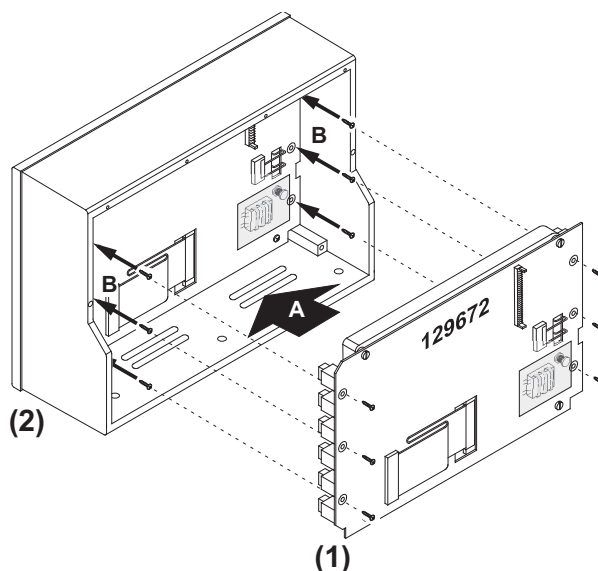

Fig. 8-8: Placing and fastening the new mounting unit
9. Now place the new mounting unit with display, pcb, keys and inverter (spare part no. 129672) carefully inside the case (A). Place the screw holes of the pcb exactly to the holder bases of the case. Thereby carefully slide the keys into the gaps of the case. Check the correct placement of the display pcb and fasten it with the six screws (B). Check the mechanical function of the keys, if necessary adjust the mounting unit again (detach the screws a little bit and relocate the pcb). (Fig. 8-8)